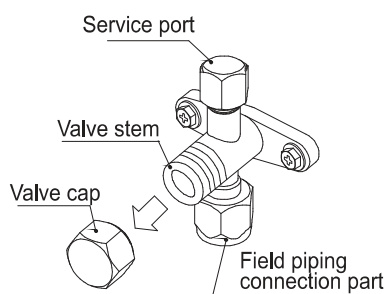

Fig.1
- The following figure shows the names of each component required to process the stop valve(Fig.1). The stop valve is closed before installation.
- (1) Open the stop valve: Insert the hexagon wrench into the valve stem, rotate the valve stem counterclockwise, and stop rotating when the valve stem can no longer rotate. At this point, the valve has already opened.
- (2) Close the stop valve: Insert the hexagon wrench into the valve stem, rotate the valve stem clockwise, and stop rotating when the valve stem can no longer rotate. At this point, the valve has already closed.